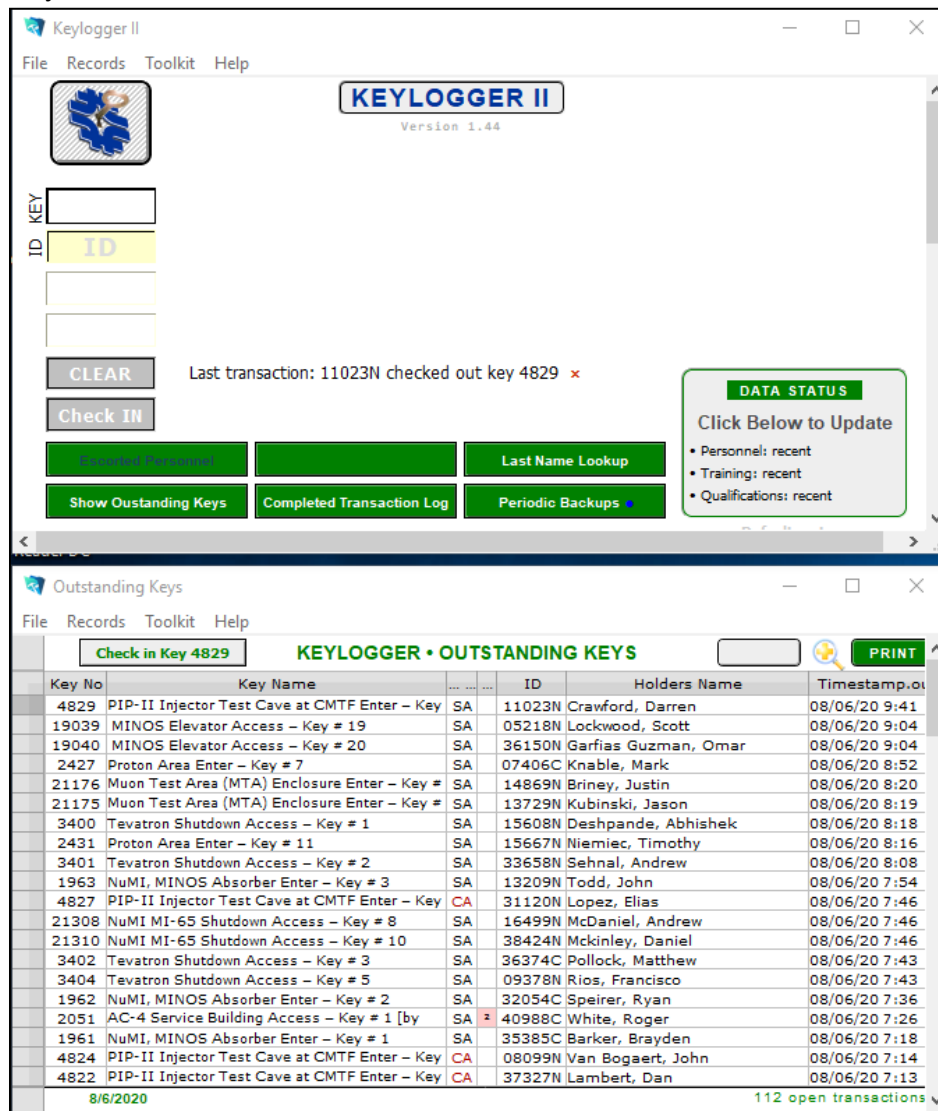

Figure 1
The Keylogger is a program that records the transaction of keys issued by the Operations Department to on-site employees, contractors, and visitors for access to areas on the Fermilab campus. It displays a list of keys that are currently issued (*Figure 1*), maintains a transaction history for each key, and cross-checks a copy of the TRAIN Database for an individual's training to ensure it is up to date at the time of the transaction. The Keylogger contains a database of the keys and their assigned Rules, which govern what training is necessary to successfully issue each key.
6. **Wait** until the Keylogger displays the key in the “Outstanding Keys” section (*Figure 1*). Once the key transaction is recorded there, hand the key to the requestor. Repeat steps 1-6 for each key.